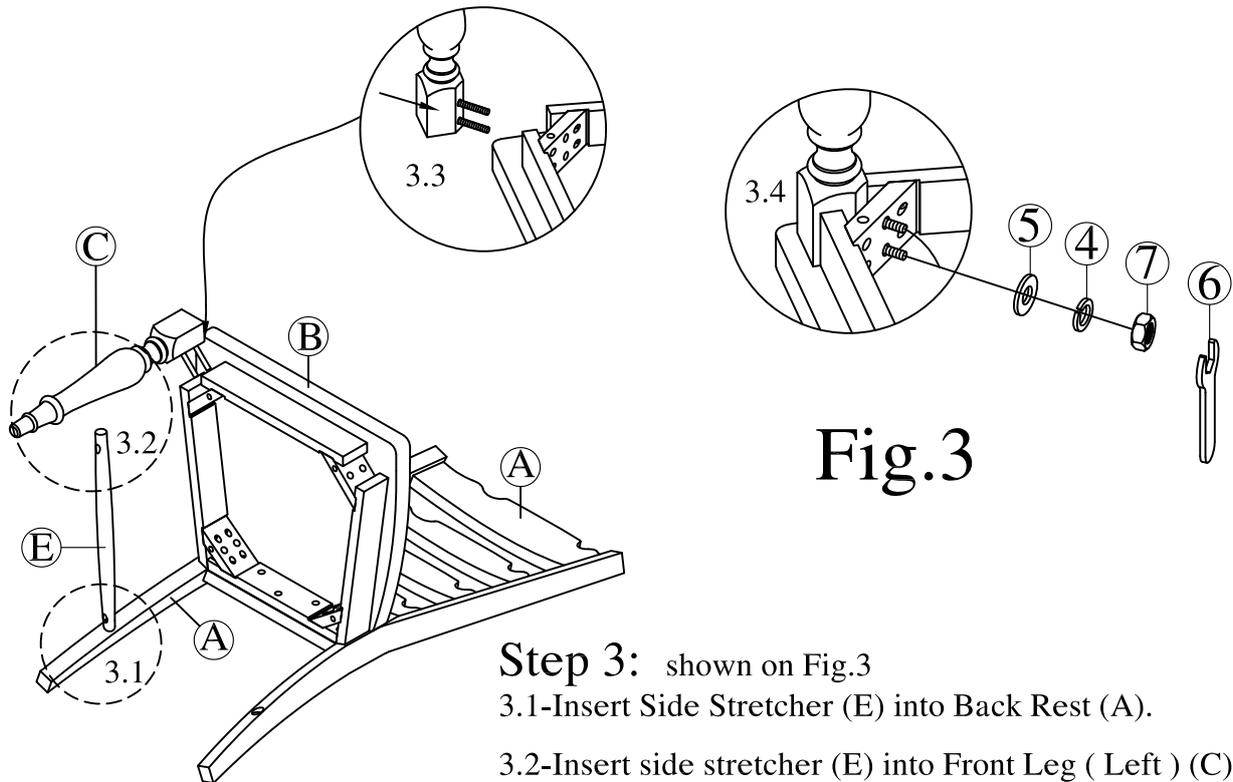

Fig.3
Step 3: shown on Fig.3
3.1-Insert Side Stretcher (E) into Back Rest (A).